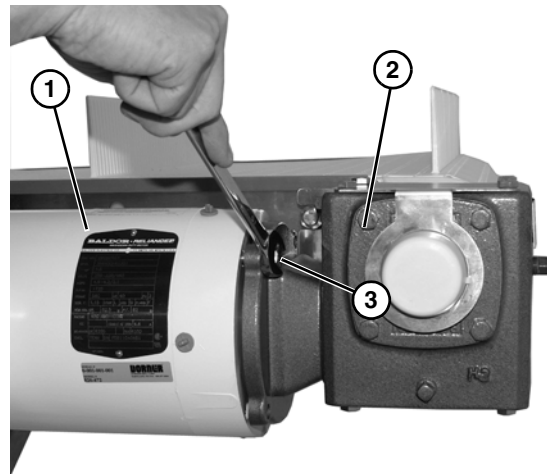

Figure 9
8. Secure motor (Figure 9, item 1) to gear reducer (Figure 9, item 2), with four bolts (Figure 9, item 3).
9. Tighten four bolts (Figure 9, item 3) to 65 in-lbs (7.3 N-m).